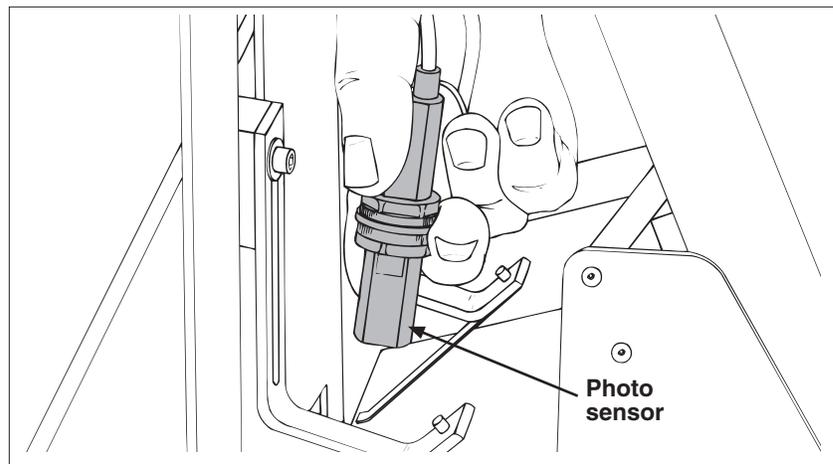

Figure 13. Initial Photo Sensor Adjustment
- With the machine turned Off, position the photo sensor by sighting along the tubular barrel. It should point exactly at the leading edge of material being held by the hold-down springs (Figure 13).